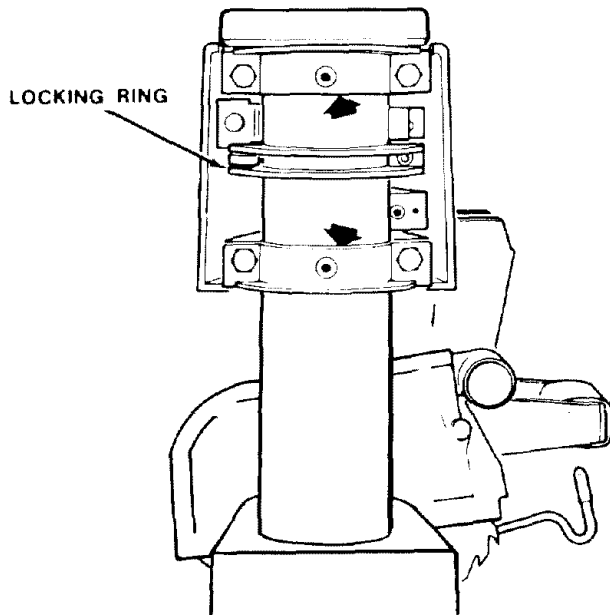

Fig. 148 - Bearing Points Where Arm Attaches to Column Tube
- Lubricate the bearing points where the *arm* attaches to the *column tube*. With a #2 Phillips screwdriver remove two screws and the rear arm cover for access to these points. Be careful not to get lubricant on the *locking rings* as this will adversely affect the miter locking function. (Figure 148)